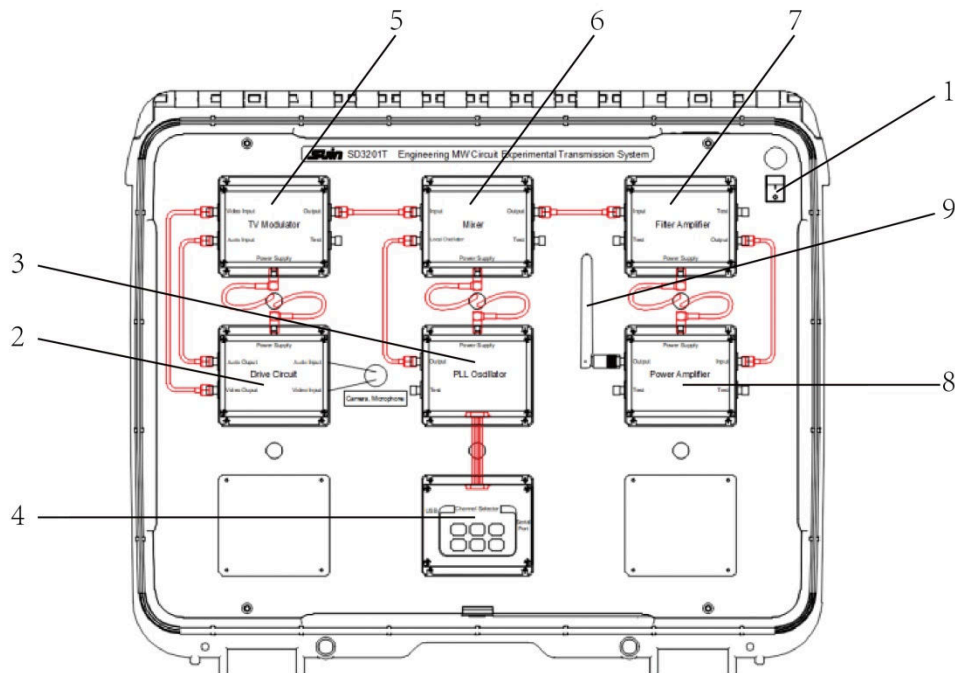

Fig.2 Connection Schematic Diagram of SD3201T Transmission system
a) Connection Schematic Diagram of SD3201T Transmission system (See Fig.2)